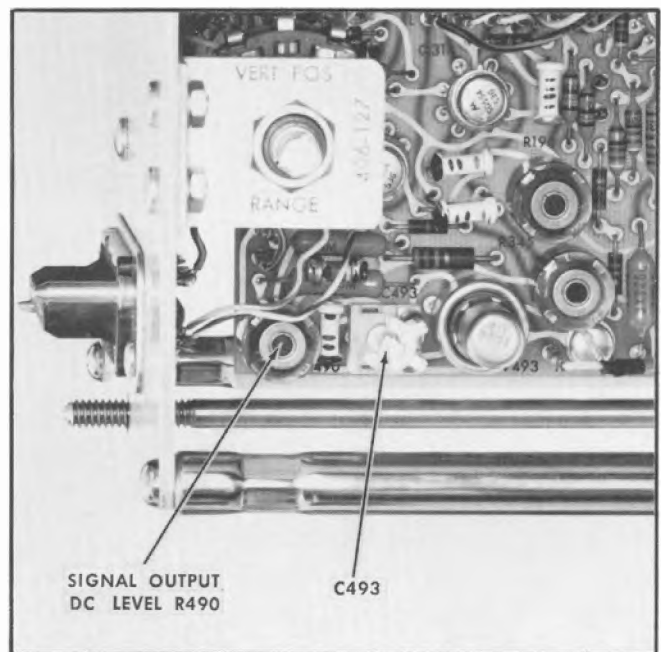
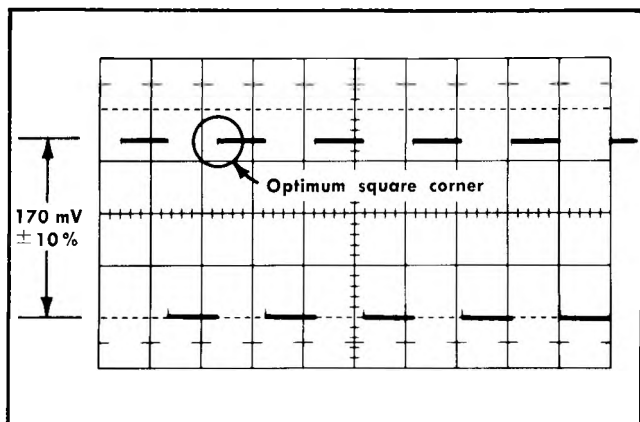

Fig. 6-43. Location of adjustments for steps 28 and 30.
Fig. 6-44. Typical display obtained on the test oscilloscope when checking the SIGNAL OUTPUT gain and adjustment of C493.
f. Check that the trace on the test oscilloscope is centered. If it is not, adjust the SIGNAL OUTPUT DC LEVEL control (R490; see Fig. 6-43) to return the trace to graticule center (zero volts indication on the test oscilloscope).
b. Check the test oscilloscope display for an amplitude of 170 mV peak to peak within a tolerance of $\pm 10\%$, 3.4 cm ± 3.4 mm (see Fig. 6-44).
a. Check the upper front corner on the test oscilloscope display. The waveform should appear similar to the one shown in Fig. 6-44. If the top of the waveform is not flat, adjust C493 (see Fig. 6-43) for optimum square waveshape.